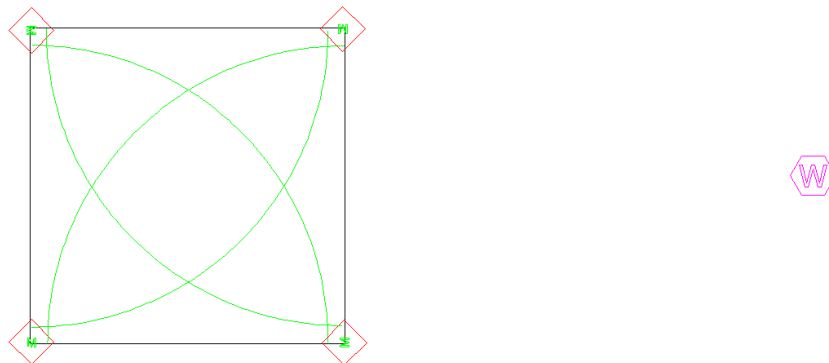

Figure 4-7
9. Place an outlet at each corner of the square by left-clicking. You will notice that the arcs are not oriented to water inside the square. We will manually fix this by selecting *Modify|Change* and clicking on a wetted arc. In the dialog change the “*Start Angle*” to be **0, 90, 180** or **270** as required (bottom left = 0, top left = 270, top right = 180 and bottom right = 90) as in Figure 4-7. Click **[OK]**.